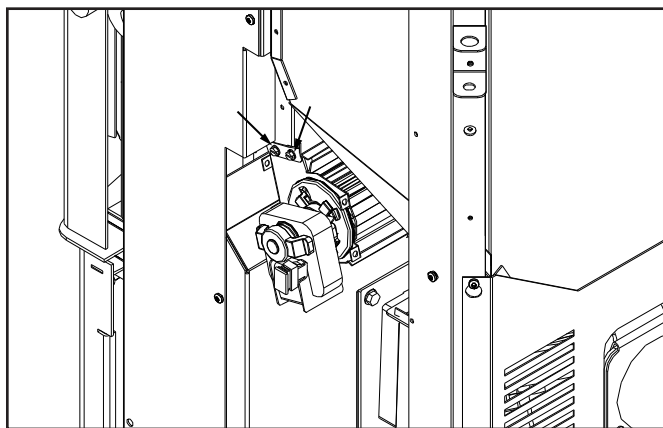

Figure 32: Behind the right cab panels.
3. Slide the fan into place between the bracket (see Figure 32 & 33).
4. Using a flat head screwdriver or a $\frac{1}{4}$ " socket fasten the fan in place with two (2) screws on each side.